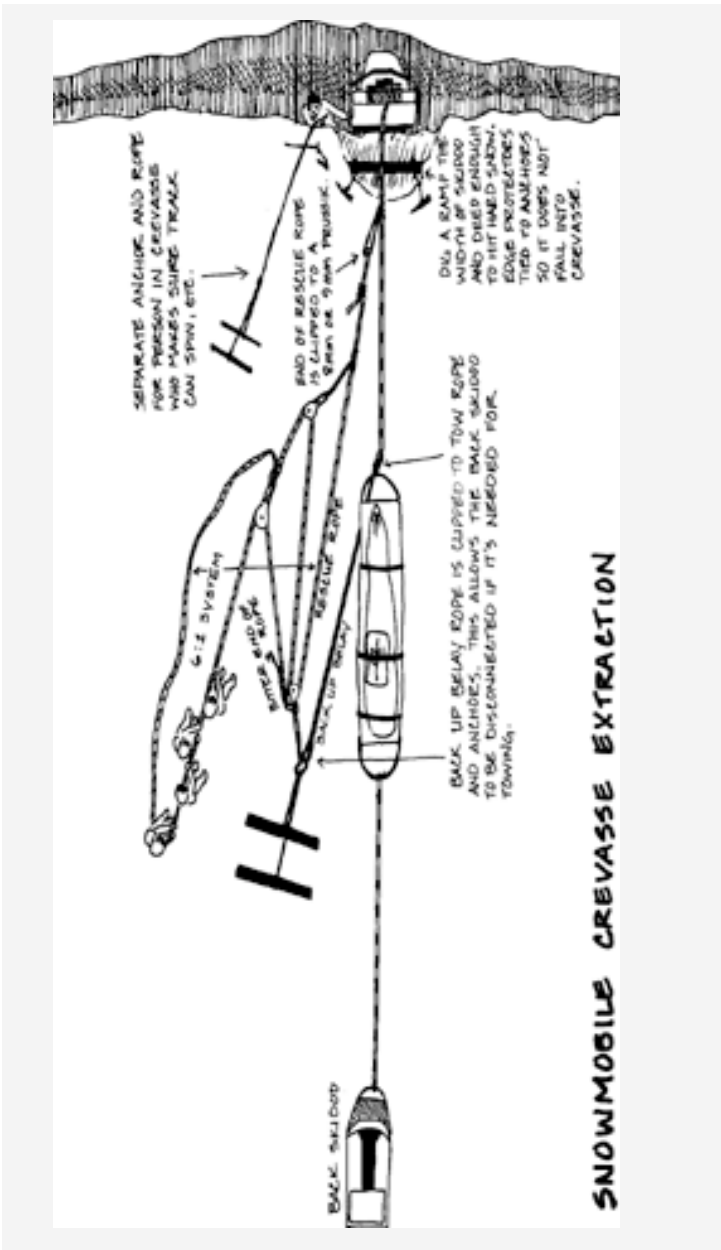

Figure 19-7: Snowmobile extraction from a crevasse.
- Use three people pulling on a 6:1 pulley system to extract the snowmobile. Or, use snowmobiles to help pull it out. Snowmobile tracks should be pre-packed, and the pull path must be free of anchors and ropes. (See figure 19-7.)